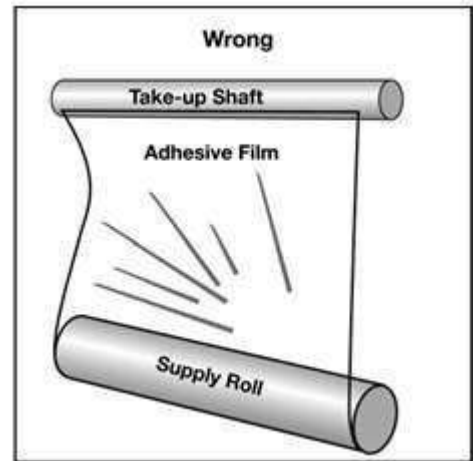

Figure 5g
4. Pull approximately 18" of adhesive film forward off the roll and adhere one release liner side smoothly to the take-up shaft, taking care to ensure that the film is square with the supply roll and no diagonal wrinkles are apparent (Figure 5g).